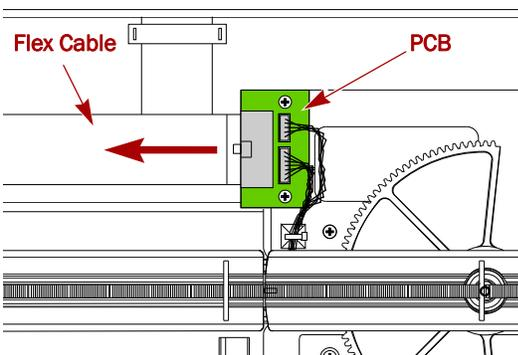

Figure 4. Cable Connections on Flex Cable Card
2. Disconnect the track flex cable from the track plate PCB (Figure 4):